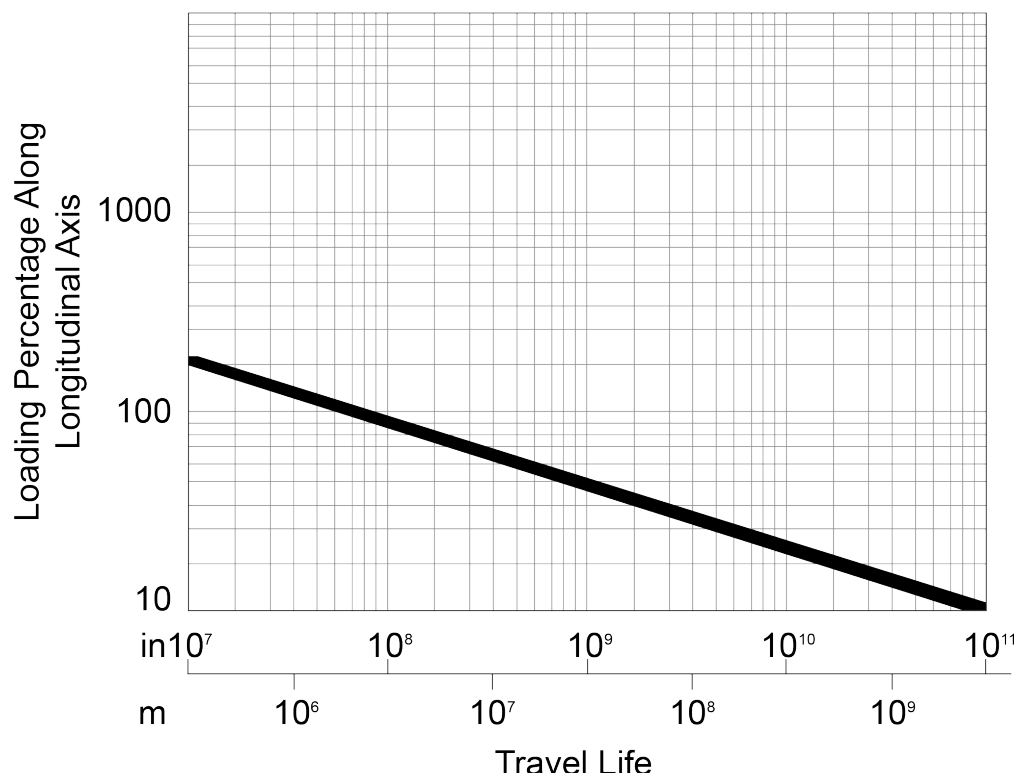

Figure 2-5: Travel Life
Figure 2-5 shows the travel life on the x-axis versus the loading percentage along the longitudinal axis (axis of travel) on the y-axis. To determine the approximate life expectancy in a given application, find the loading percentage and refer to the travel life diagram in Figure 2-5.
4. Enter the y-axis of the travel life graph in Figure 2-5 at the calculated percentage and read the corresponding travel life from the x-axis. This diagram is based on approximately 100 million inches of travel at the rated load. Loads exceeding the rated load (ratio more than 100 %) will reduce the rated life while loads with lower ratios will result in longer life. Be sure to consider dynamic loading when using the ATS150 series stage for high-speed applications.